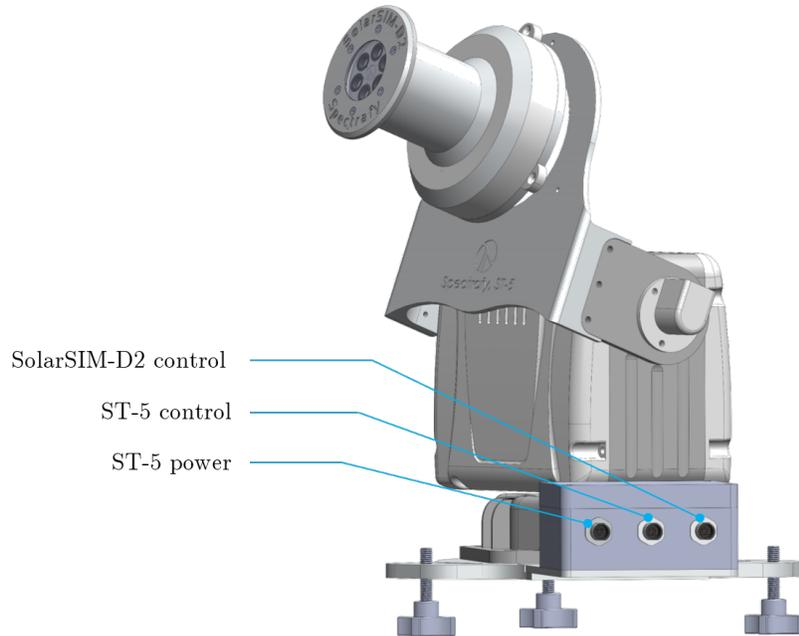

Figure 4: Connector functions of the ST-5’s control box.
6. Connect the connector-end of the single-ended ST-5 power cable to the control box's ST-5 power connector, as per Figure 4. Similarly, connect the SolarSIM-D2